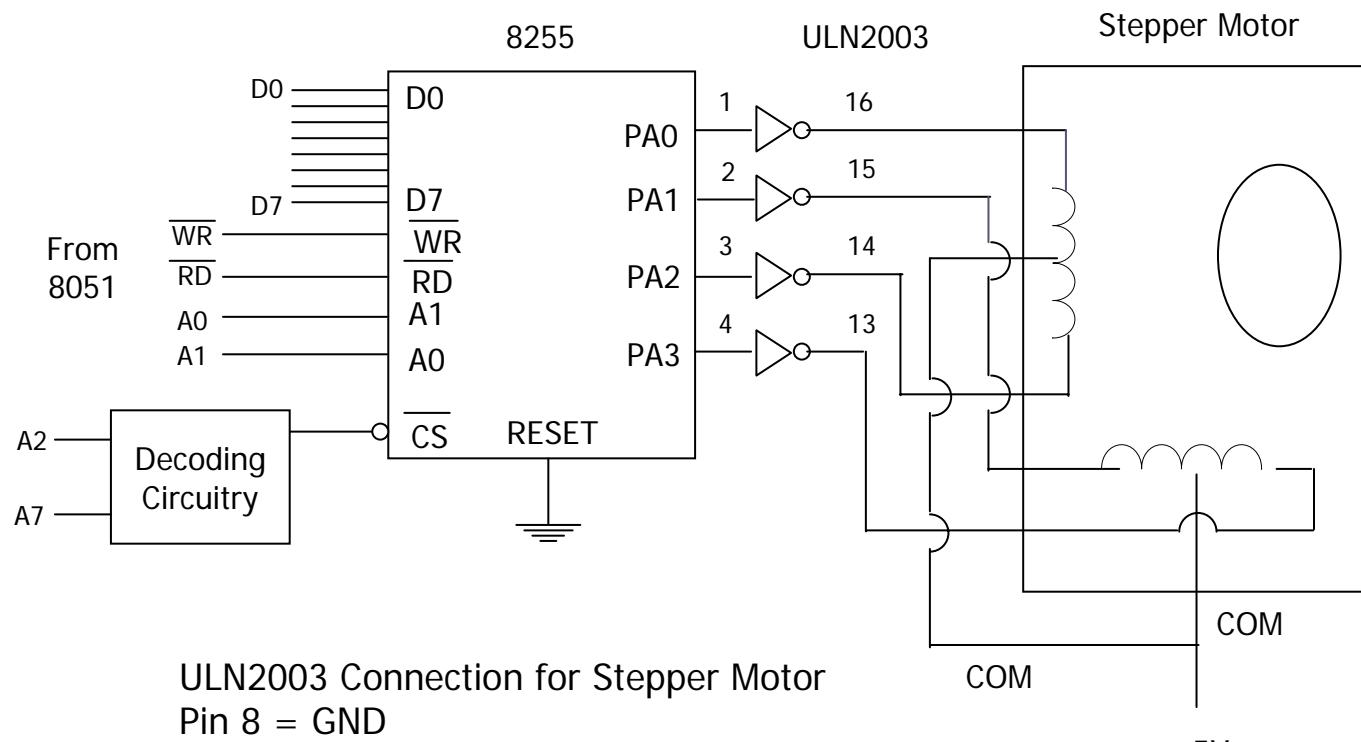

Figure 15-9. 8255 Connection to Stepper Motor
- ❑ Here show stepper motor connection to the 8255 and programming in Fig 15-9